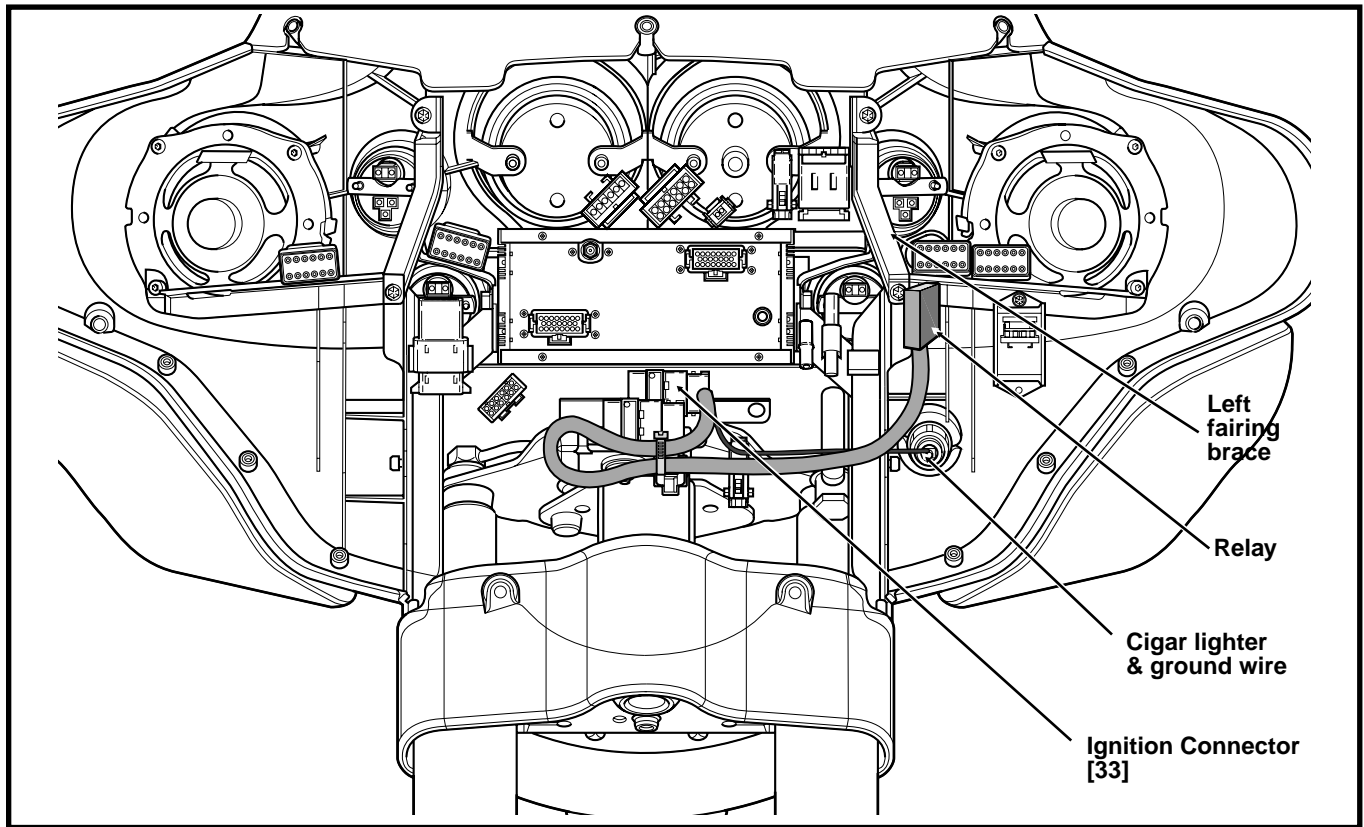

Figure 4. FLHT/C/I - Existing harness removed for clarity
4. Install keyswitch jumper harness at ignition switch connector [33]. See Figure 4.
6. Position keyswitch jumper harness along ignition switch connectors and tie wrap to existing wiring. See Figure 4.
16. Position keyswitch jumper harness along ignition switch connectors and tie wrap to existing wiring. See Figure 4.